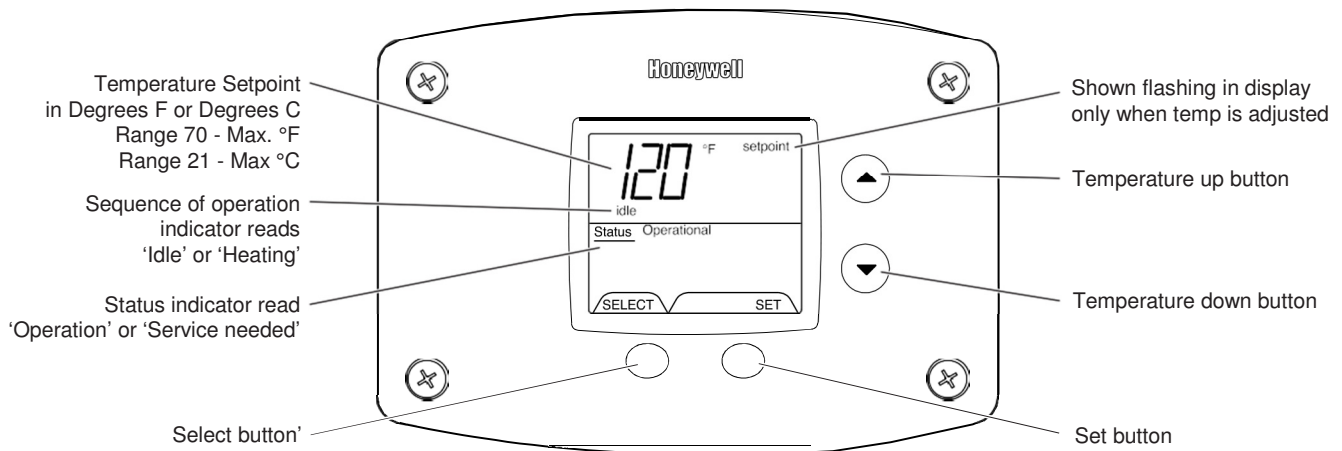

Figure 12
4. Set the desired temperature by following Fig. 12 to 18 on pages 26 & 27.